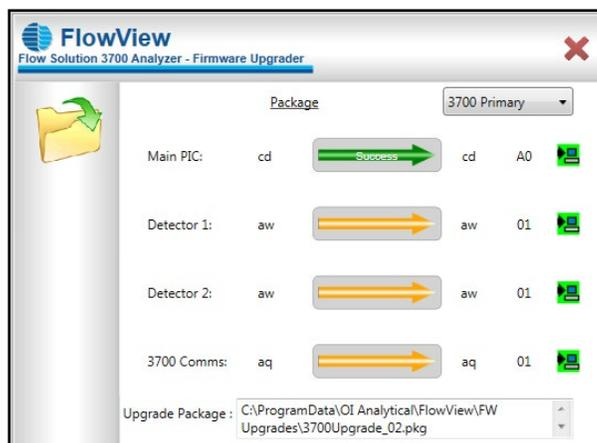

Figure 7.9. Firmware Upgrade Window - Successful Upgrade
8. When the transfer is complete, the green arrow turns green and indicates "Success". The computer icon is green if board reinitializes and is ready (see Figure 7.9).